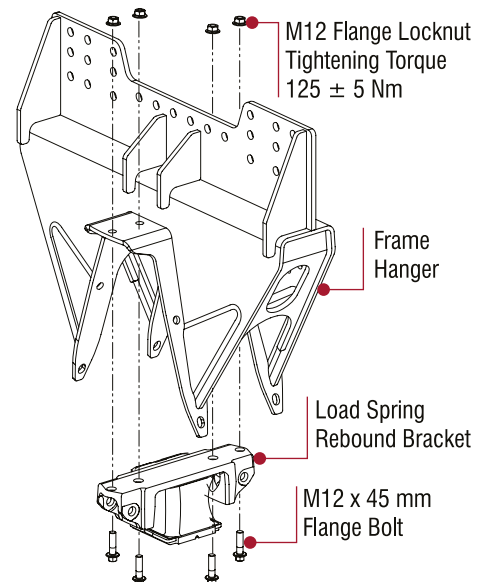

Figure 20: Hanger to Load Spring Fasteners
3. Install the M12 fasteners into the load spring rebound bracket and frame hanger. Tighten to **125 Nm** torque, refer Figure 20.